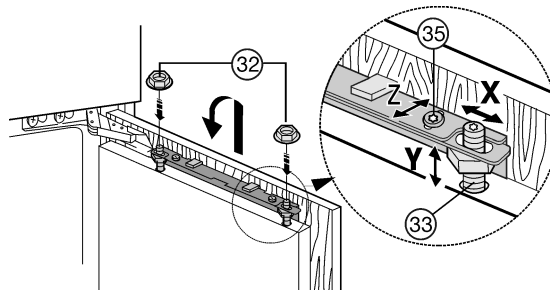

Fig. 21
- ▶ Attach the unit door to the adjusting bolts *Fig. 21 (33)* and loosely screw the locknuts *Fig. 21 (32)* onto the adjusting bolts.
- ▶ To align the unit door in height Y and in lateral inclination: Adjust the adjusting bolts *Fig. 21 (33)* using a screwdriver.
- ▶ Tighten the lock nuts *Fig. 21 (32)*.